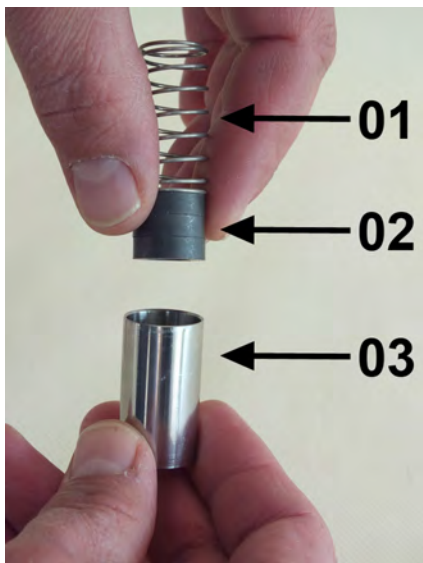

Fig. 43: inner parts
4. ➔ Insert the spring (Fig. 43/01) and magnets (Fig. 43/02) into the float (Fig. 43/03), observing the magnetic polarity (north pole toward the outlet side).